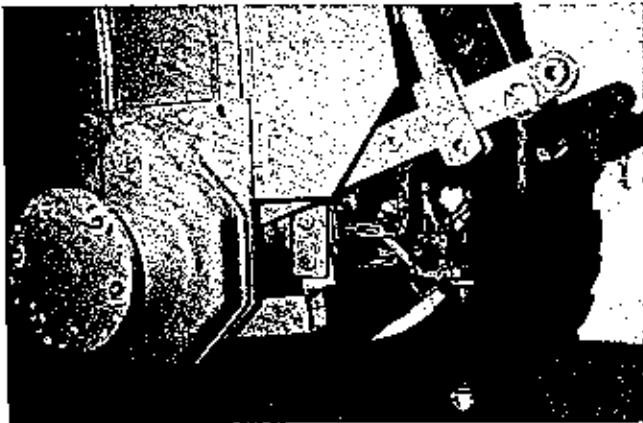

Figure 4
4. At this time, on tractors with three point hitch, it is necessary to remove the restraining chains from the stationary hitch, then remove the lower bolts from each side of the stationary hitch. Remove the two hanger brackets from the mounting frame assembly and install into the bottom holes on each side of hitch with bolts furnished with brackets, leave loose. Figure 4. The pulley guard in front of these mounting holes may have to be tapped forward to allow enough room to mount these brackets. Reinstall the restraining chains. These brackets need never be removed. Raise